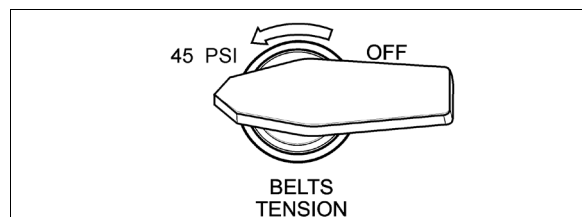

FIGURE 15: BELT TENSIONER VALVE ON REAR CONTROL PANEL (OPTION)
2. Remove bolts B and D. Untighten bolts A and C then pivot oil cooler as per Figure 15. Install bolts B and D and tighten all bolts.